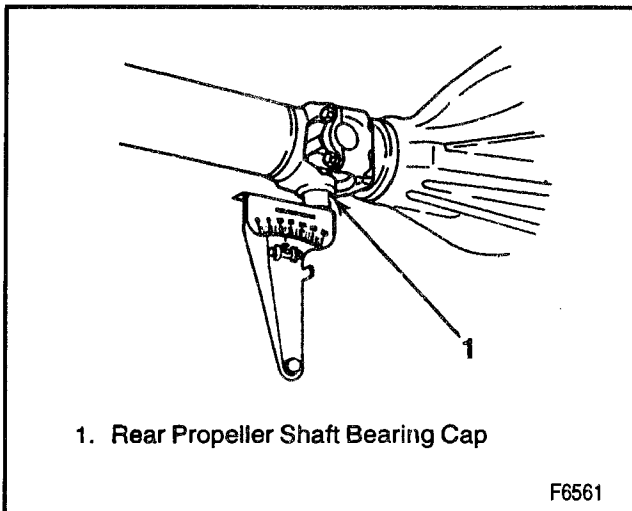

Figure 24—Measuring Rear U-Joint Working Angle
1. Place J 23498-A Inclinometer on rear propeller shaft bearing cap (Figure 24). Center the bubble in the sight glass and record the measurement. The bearing cap must be straight up and down and free of dirt or other foreign material to obtain an accurate measurement.